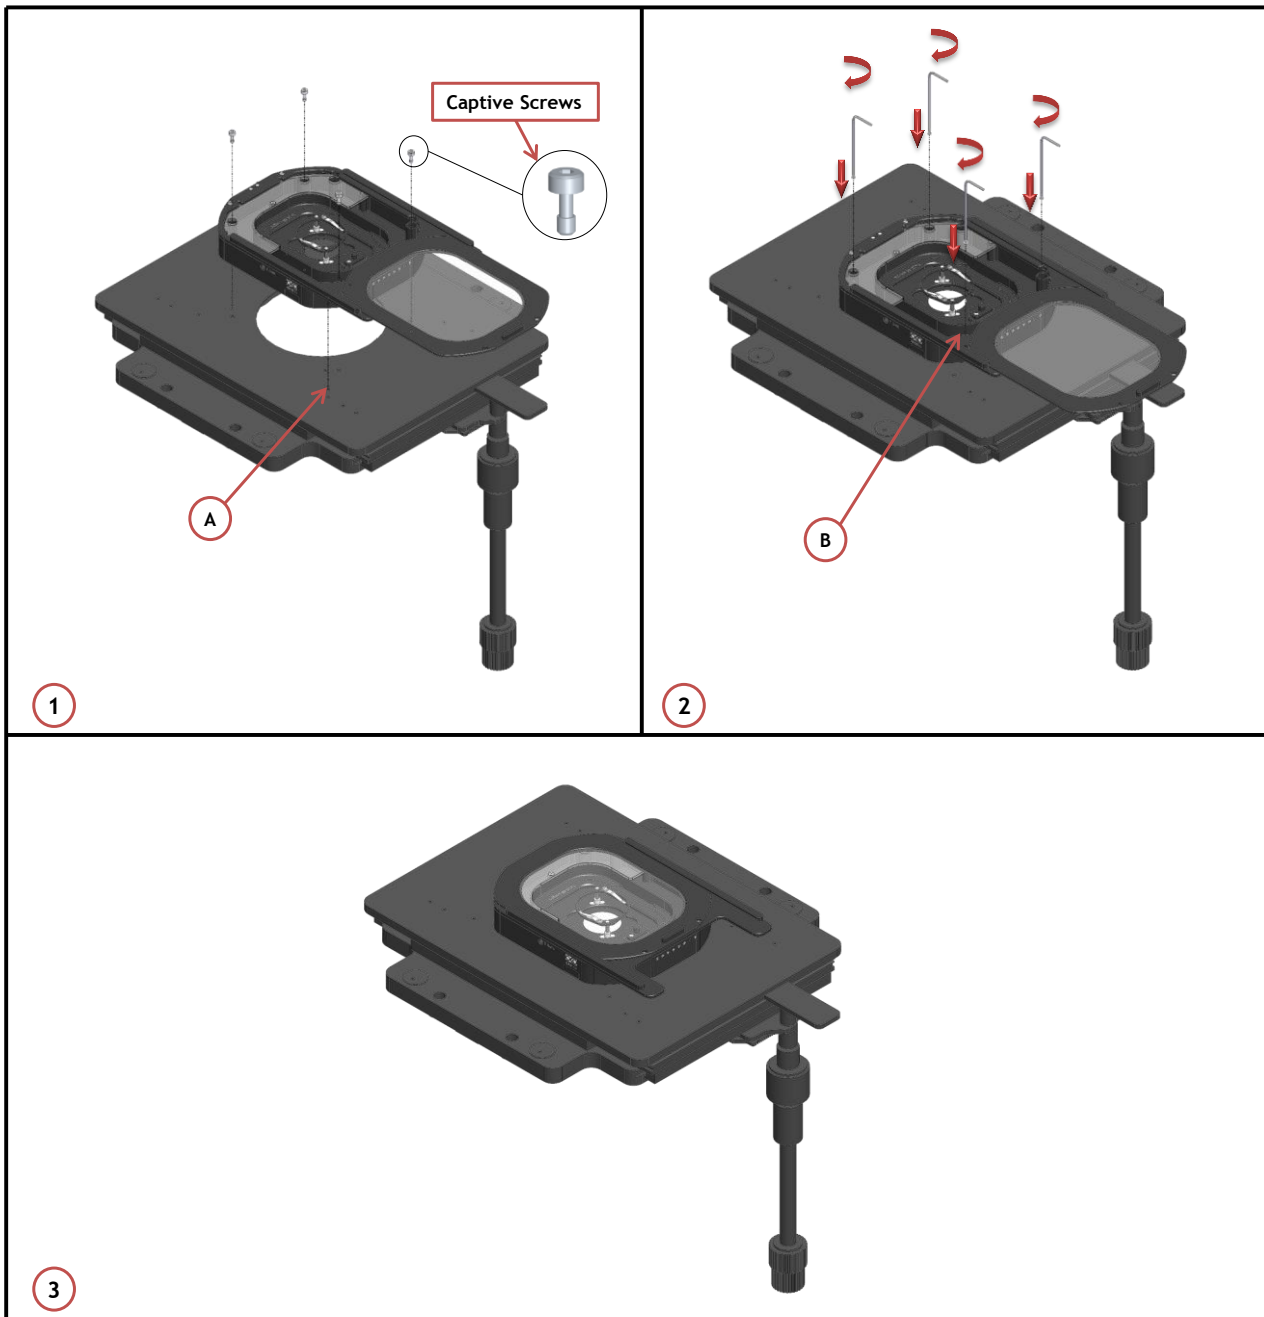

Figure 18. Connection of the Chamber with XY Stage
Follow the steps shown in the images Figure 18 and listed below in order to correctly connect the chamber with XY stage.
1. Place the chamber on the stage and tighten 4 captive screws (See Figure 18 Image 1 and Image 2). Captive screws housings are indicated with letter B in Figure 18 Image 2
2. Use a 2.5mm metric Allen Wrench to tighten the four captive screws while keeping the chamber sliding lid open (See Figure 18 Image 2)